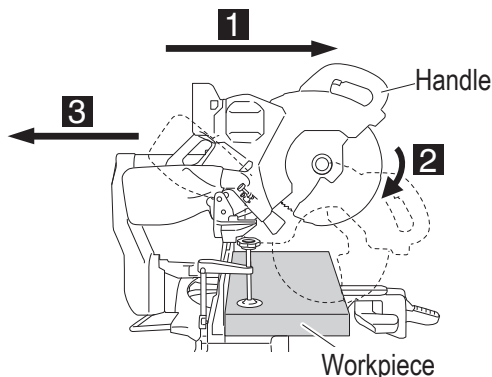

Fig. 31
7. Cutting wide workpieces (Slide cutting) (Fig. 31)